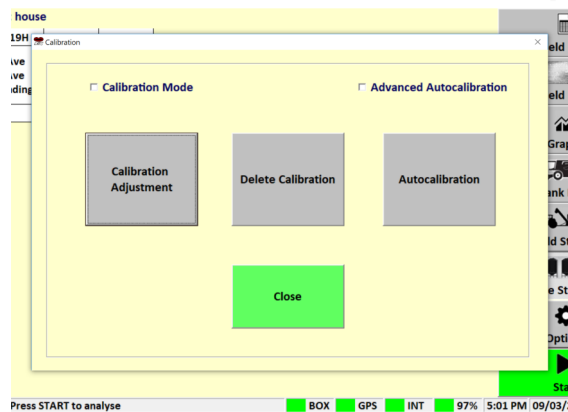
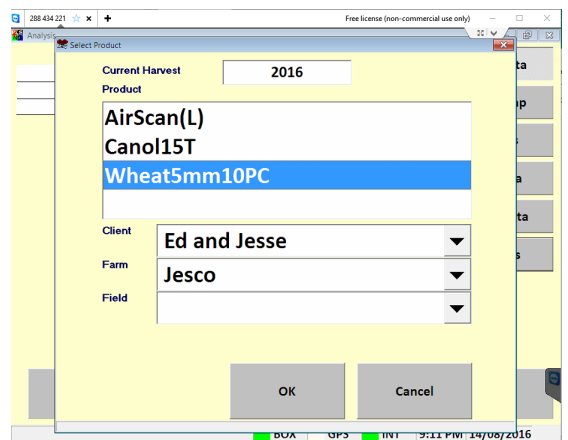

Figure 4.2. Calibration Menu.
Figure 4.3. Select Product Menu.
3. Press **Auto-Calibration** button and Select the Crop Type to validate. figure 4.2 and figure 4.3